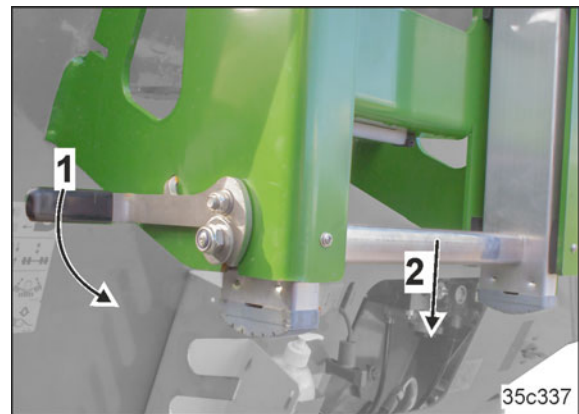

Fig. 218
1. Actuate the lever (Fig. 218/1) and unlock the ladder.
2. Pull the ladder down (Fig. 218/2).